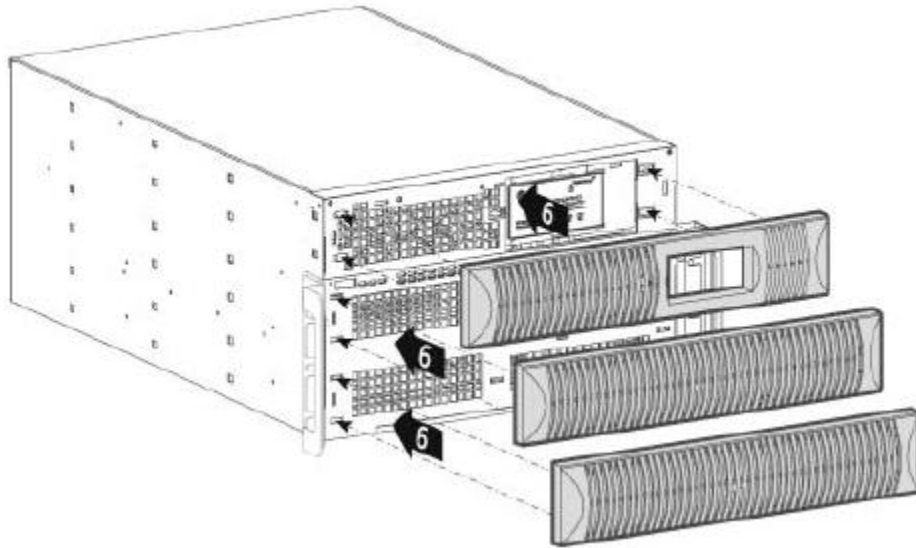

FIG 18 – XPRT-10KVA MOUNT PLASTIC FRONT PANELS
5. Mount the front panels by pushing the plastic part into the appropriate holes (see FIG 18).